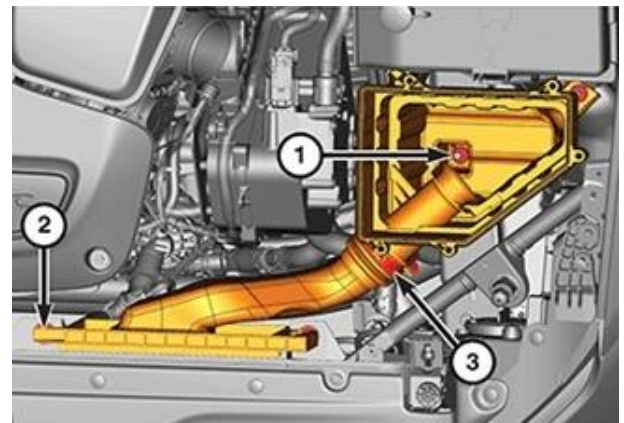

Figure 13 – Air Cleaner Body
21. Loosen the clamp (3) and pull the air inlet duct straight up to disengage the locating pins (2) from the rubber mount sockets (Figure 13).
22. Disengage the locating pins from the rubber mount sockets (1) and remove the air cleaner body (Figure 13).